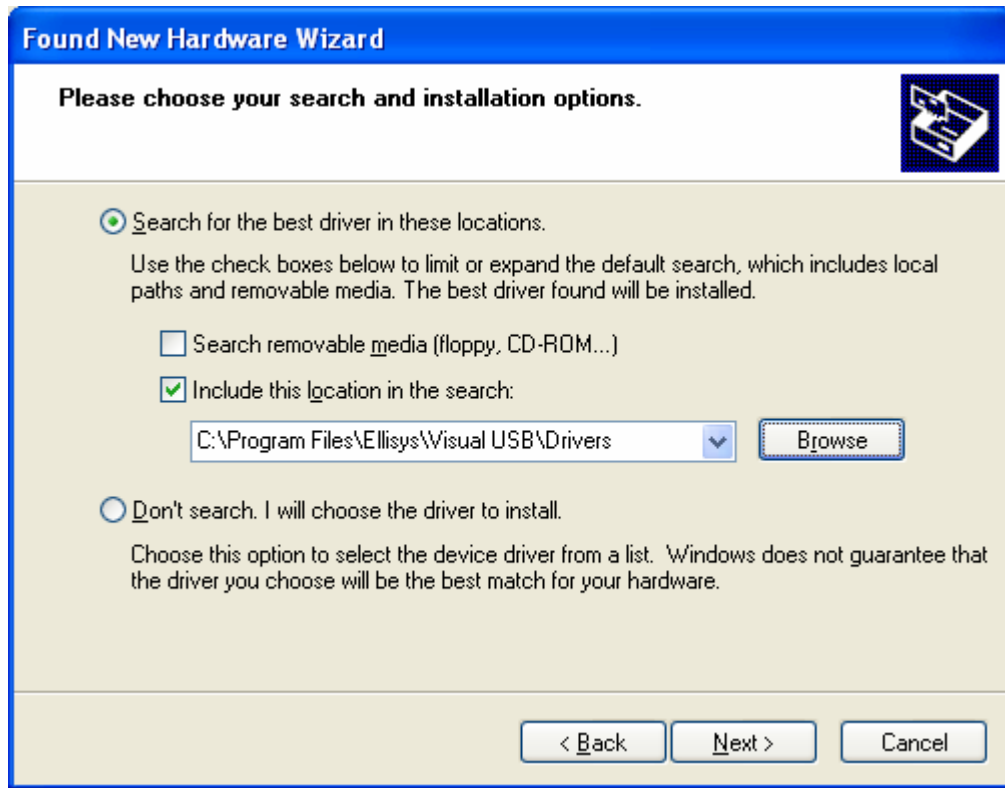

Figure 26 - Search for the best driver
6. Select only "Include this location in the search" and type the folder path in which you have installed the software (see Figure 26)